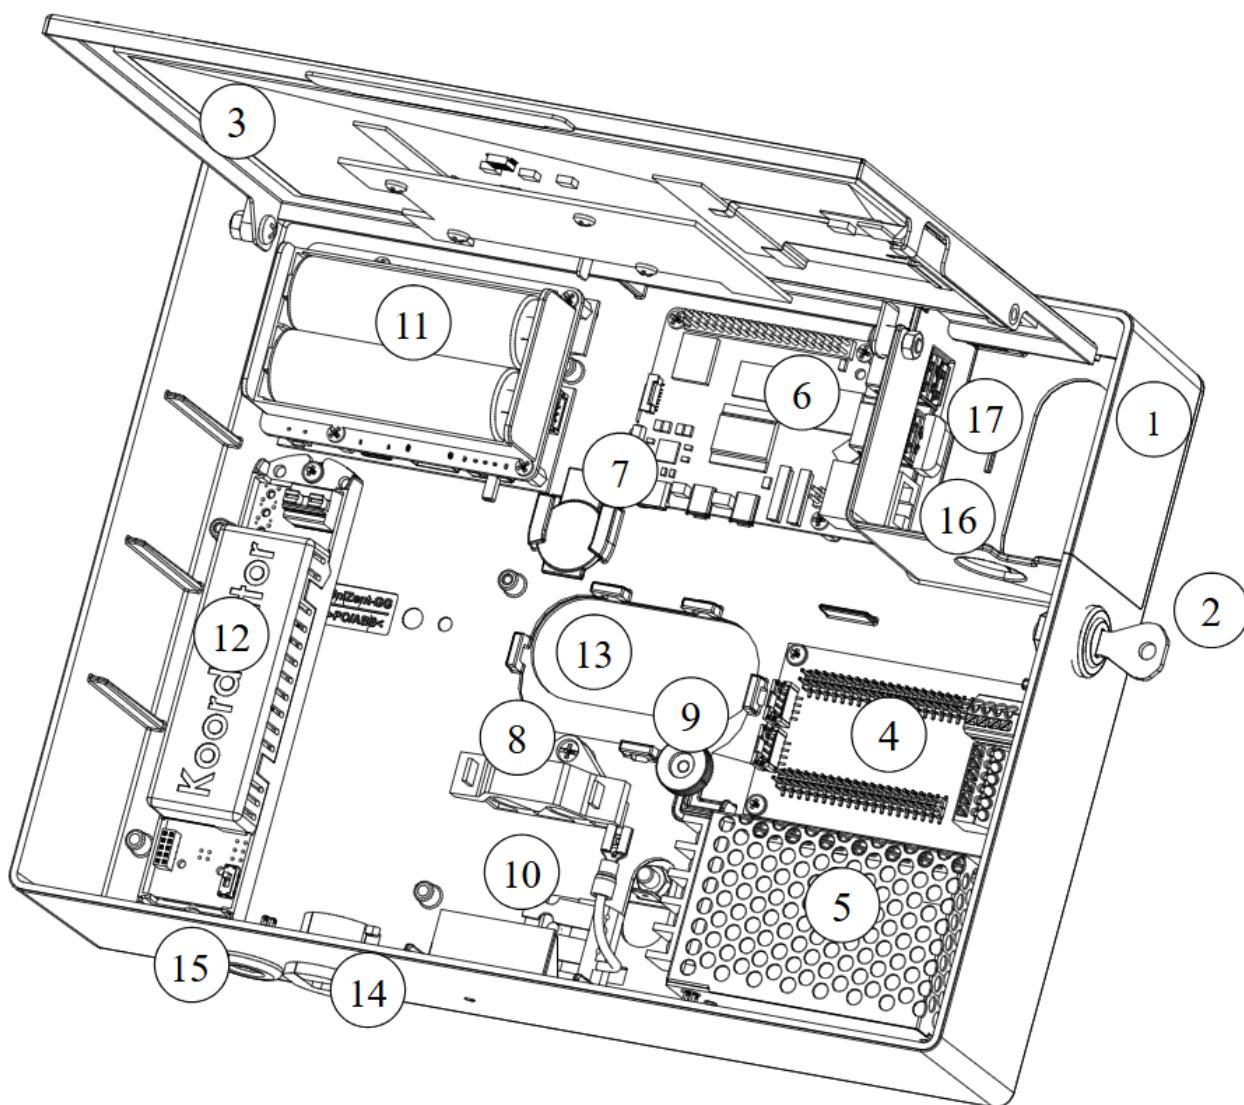

Figure 4 WLZent04, internal structure
**Important:** The internal backup USB stick (17, see Figure 4 WLZent04, internal structure) may only be removed when the WLZent04 is powered down. The WLZent04 function is not available without a backup USB stick.
The WirelessProfessional WLZent04 can be connected directly to the sub-distribution board using a permanently installed 3-core connection cable or to a power socket using the mains connection cable supplied. To do this, feed the cable into the housing and through the existing strain relief (8, see Figure 4 WLZent04, internal structure) to the 3-pole terminal (10, see Figure 4 WLZent04, internal structure). After connecting the cable, close the strain relief.
If the device has an integrated UPS unit (11, see Figure 4 WLZent04, internal structure), slide the toggle switch to the left to the "ON" position.
If the device has an integrated UPS unit (11, see Figure 4 WLZent04, internal structure), open the WLZENT04 housing and move the slide switch to the "OFF" position on the right.
The WirelessProfessional WLZent04 can be disconnected from the power supply 5 seconds after the red LED on the WLZent04 processor board (6, see Figure 4 WLZent04, internal structure) has appeared. The processor board can only be seen when the WLZENT04 housing is open.